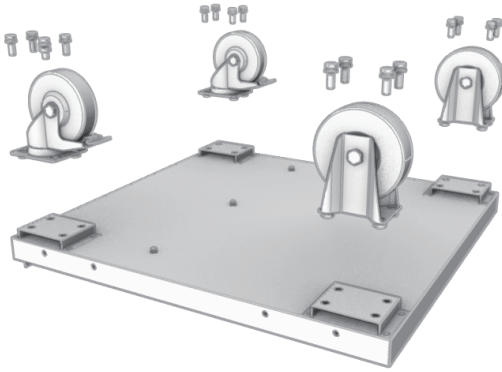

Figure 1
1. Attach casters (K & L) to base (A) using 16 hex head bolts (P). (See Figure 1)